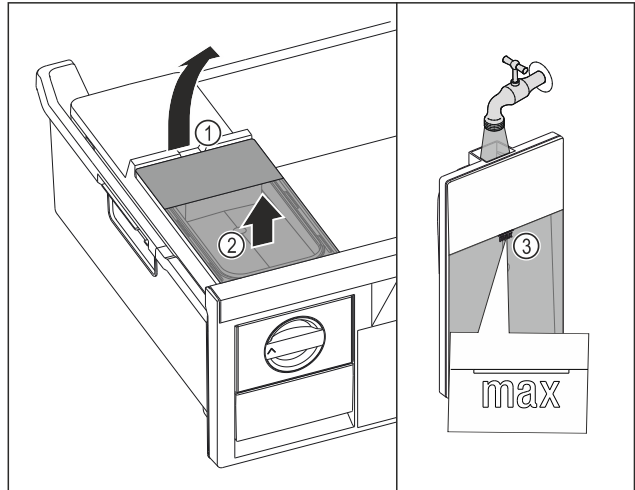

Fig. 78
- Lift the water tank at the recess Fig. 78 (1).
- Remove the water tank by lifting it upwards. Fig. 78 (2)
- Fill the water tank with drinking water up to the mark Fig. 78 (3).